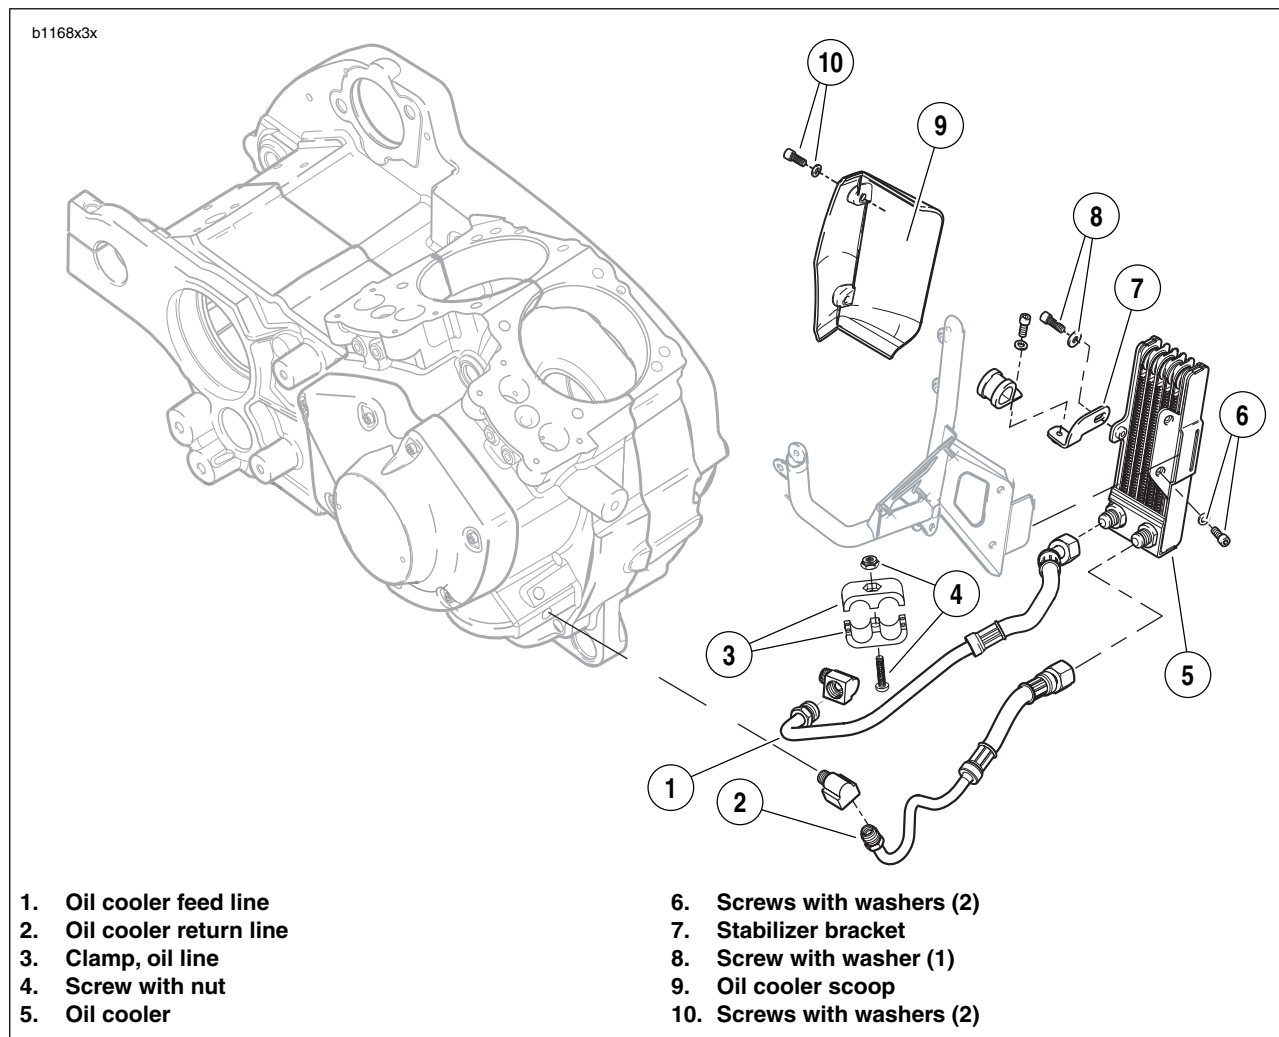

Figure 3-111. Oil Cooler
See Figure 3-111. The XB9/12 models are equipped with a factory installed oil cooler.
1. See Figure 3-111. Lightly coat the threads of the oil cooler fittings with clean H-D 20W50 engine oil. Wipe off any excess oil.
3. After the oil cooler is in place, apply Loctite 272 to the two fasteners (6) and tighten to 120-144 **in-lbs** (13.6-16.3 Nm).
4. Apply Loctite 272 to the stabilizer bracket fastener (8) and tighten to 66-78 **in-lbs** (7.5-8.8 Nm).
5. Install oil cooler scoop and apply Loctite 272 to the two fasteners (10) and tighten to 120-144 **in-lbs** (13.6-16.3 Nm).